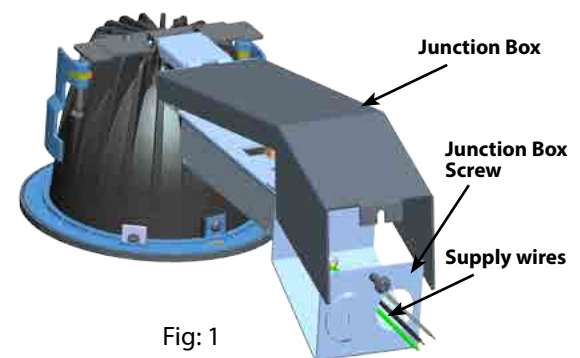

Fig: 1
3. Loosen the **Junction Box Screw** and open the **Junction Box** (Fig.1). Attach **Supply Wires** into **Junction Box** and connect to the fixture. See wiring section for details.